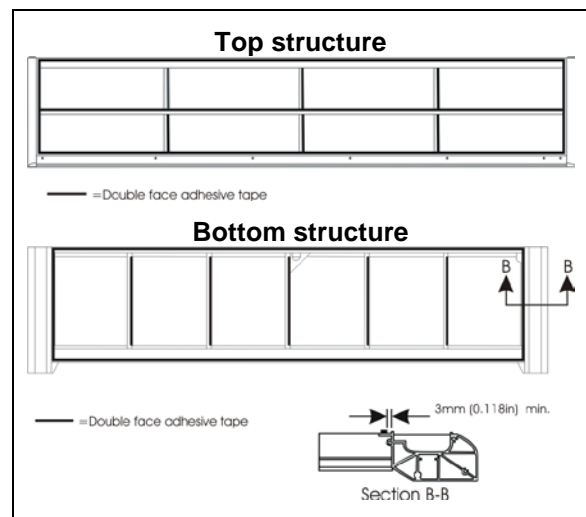

FIGURE 45: TOP AND BOTTOM PANEL INSTALLATION - DOUBLE FACE ADHESIVE TAPE APPLICATION
2. Refer to FIGURE 45 for 1/16x1/4 double face adhesive tape location on structure;